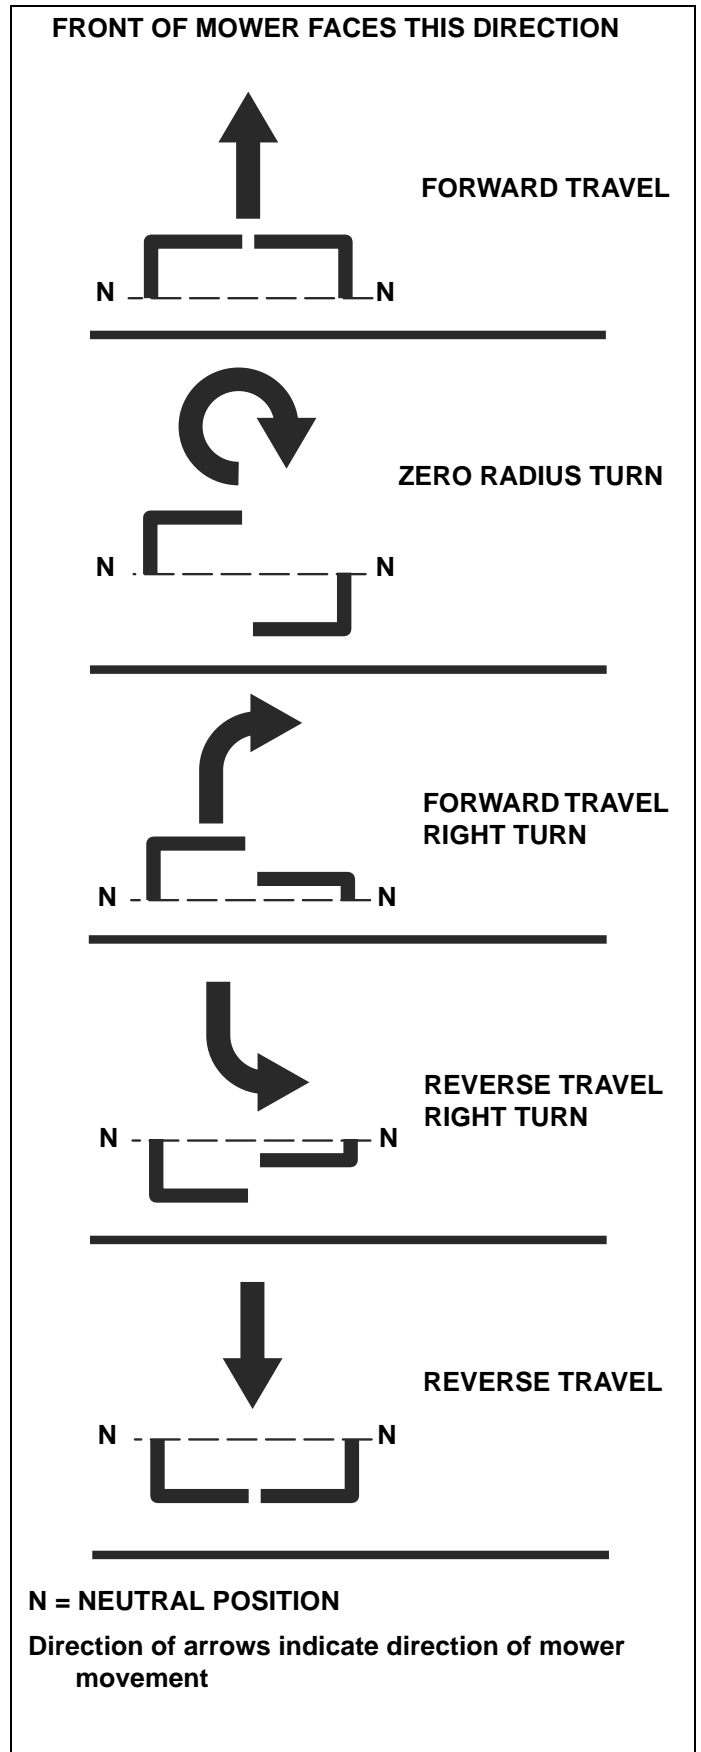

Figure 3-8
**To go forward**, push steering control levers forward an equal distance (Figure 3-8).
**To go in reverse**, pull steering control levers rearward an equal distance (Figure 3-8).
**To turn right**, move the left steering control lever farther forward from neutral than the right steering control lever. (Figure 3-8)
**Zero radius turn**, move one steering control lever forward and the other steering control lever back of neutral. This will allow the drive wheels to counter-rotate. (Figure 3-8)